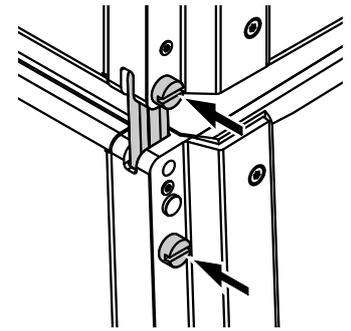

Fig. 4: SUB to SUB, 2° splay, blocked
4. SUB to SUB with 2° splay (blocked) between the cabinets (⇒ Fig. 4).